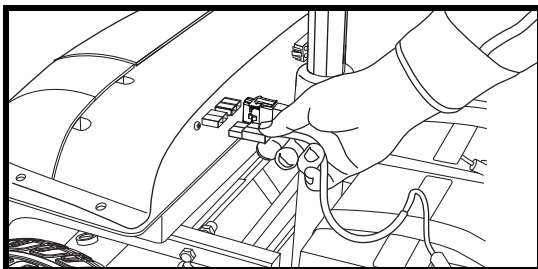

Figure 19. Disconnecting The Battery Harnesses
5. Unplug both black and white 2-pin battery harnesses. See figure 19.